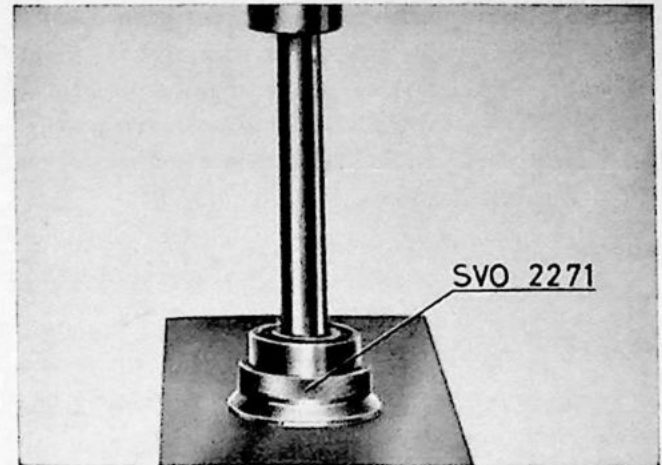

Fig. 106.
1. Place the front bearing on ring SVO 2271 as shown in Fig. 106. Press shaft into bearing until shaft end bottoms against press table, then into pulley until shaft end bottoms against press table, then into pulley until shaft end is flush with pulley face.